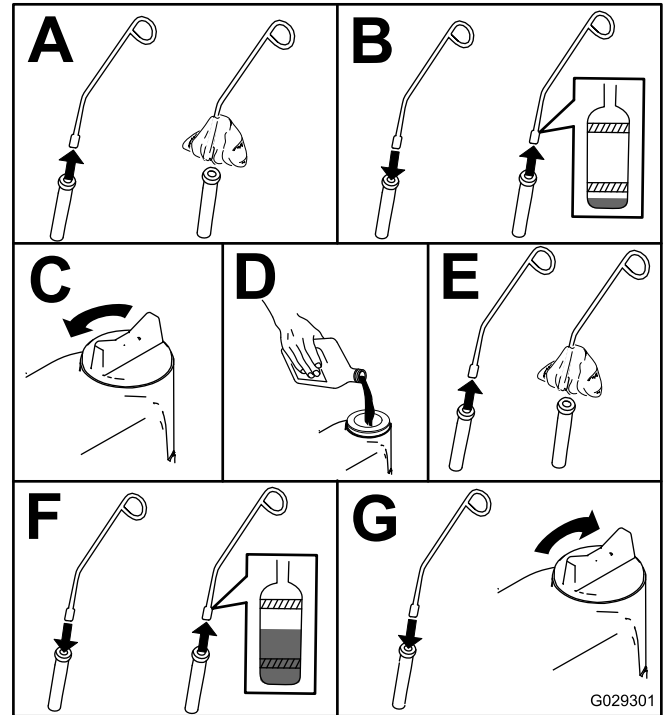

Figure 85
5. Check the engine-oil level as shown in Figure 85.